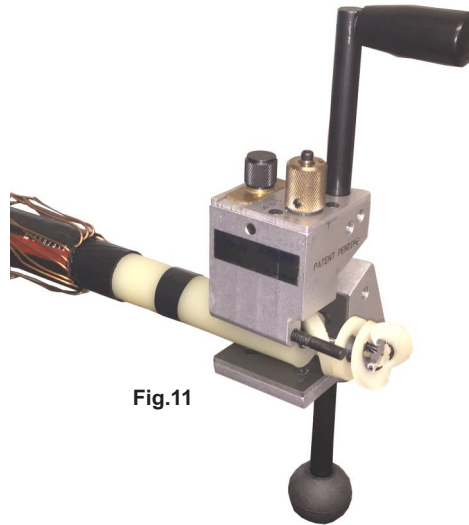

Fig.11
- Start the cut.** Rotate the tool around the cable to start the cut. (Fig.11)